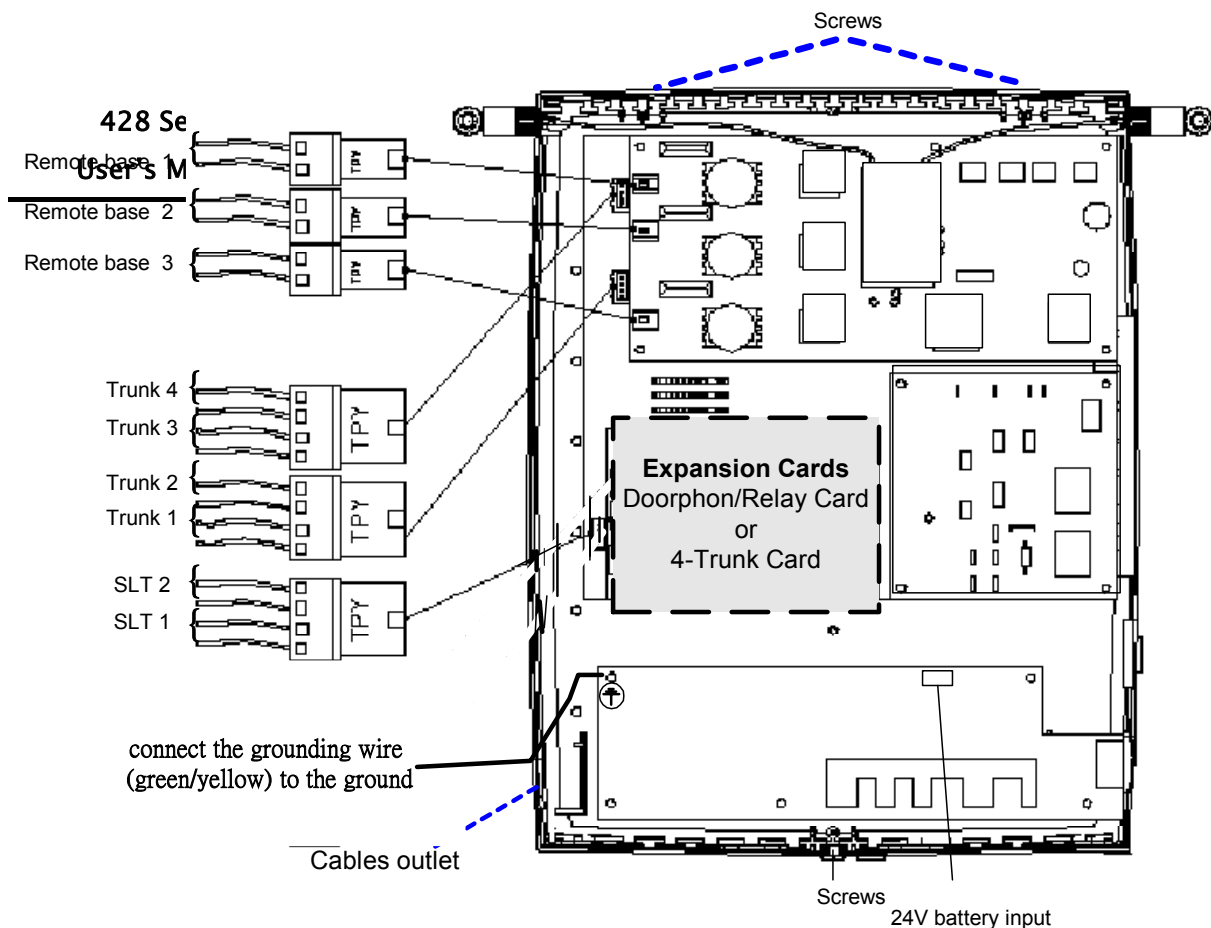

Figure 2-2 Connection of the Central Unit
- Open the Central Unit. Figure 2-2 shows the Central Unit with all the functional boards and the connectors.
- Make the cables inside the Central Unit pass through the cable outlet (see Figure 2-2). Now you can close the Central Unit and fix it with 3 screws.
2. **If you want to install a modem to the Central Unit, you should connect the modem to the 1st SLT port (see Figure 2-2).**